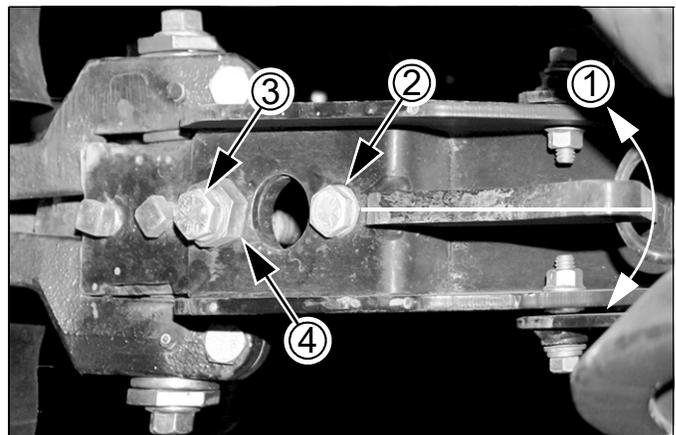

Figure 54
3. Centering (see Figure 54 on page 44)
Refer to Figure 54